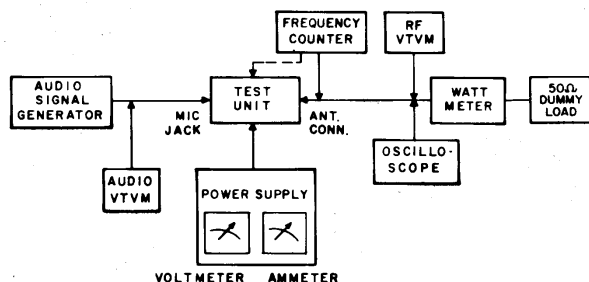

Figure 6 – Test Equipment Hook-Up
Connect test equipment to the transceiver as shown in the block diagram below, Figure 6. To activate the trans-
- b. Adjust L7 for maximum reading on the RF wattmeter. See Figure 6.
- c. Adjust RV2 to obtain 85–90% modulation, as observed on the scope, see Figure 6.